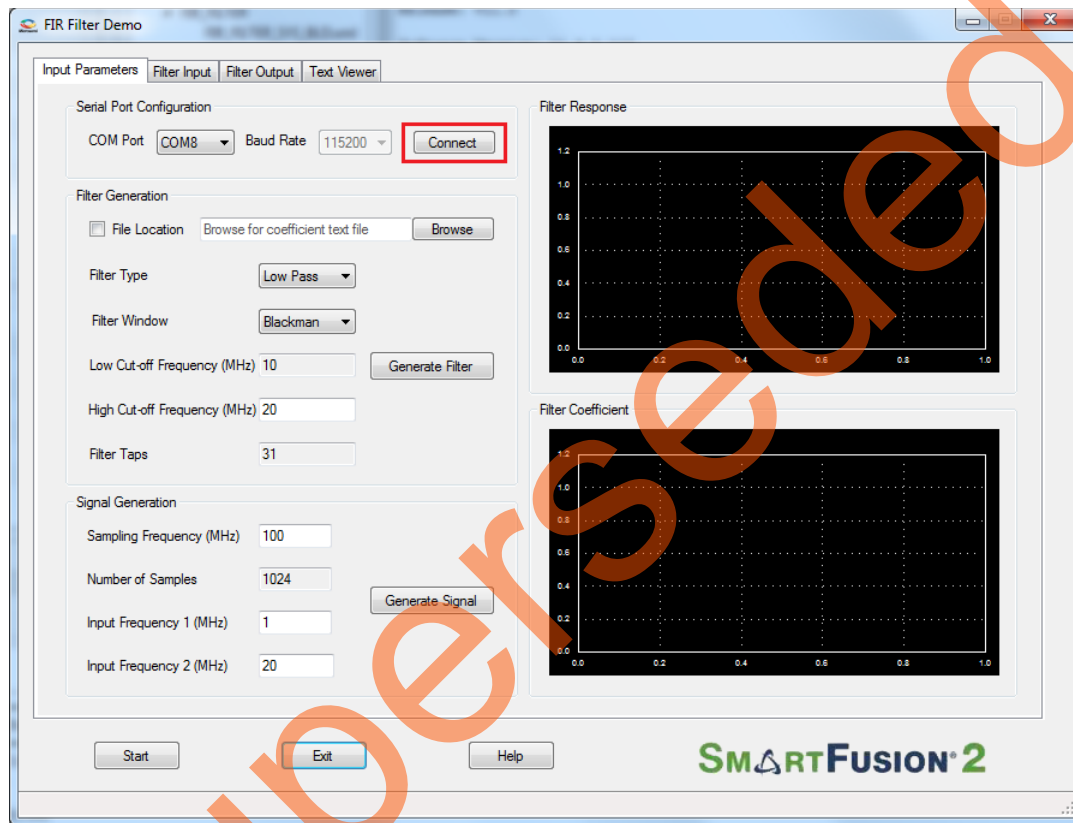

Figure 13 • Serial Port Configuration
The FIR Filter Demo window is displayed, refer to Figure 13.
2. **Serial Port Configuration:** The COM port number is automatically detected and baud rate is fixed at 115200. Click **Connect** as shown in Figure 13.